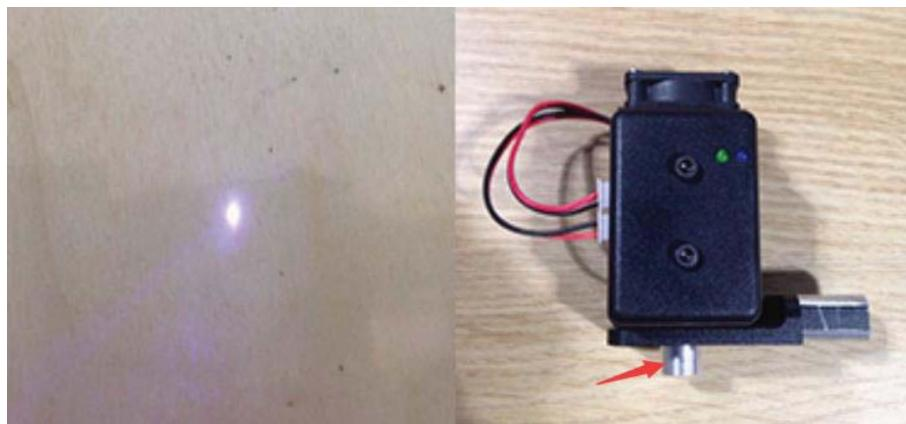

Figure 5.80 Adjust the laser focus
- If you cannot set the laser to be at its minimum focus, it's probably because the focal length is long. To shorten the focal length, slightly turn the silver lens screw (as shown in Figure 5.80) on the bottom of the laser kit.